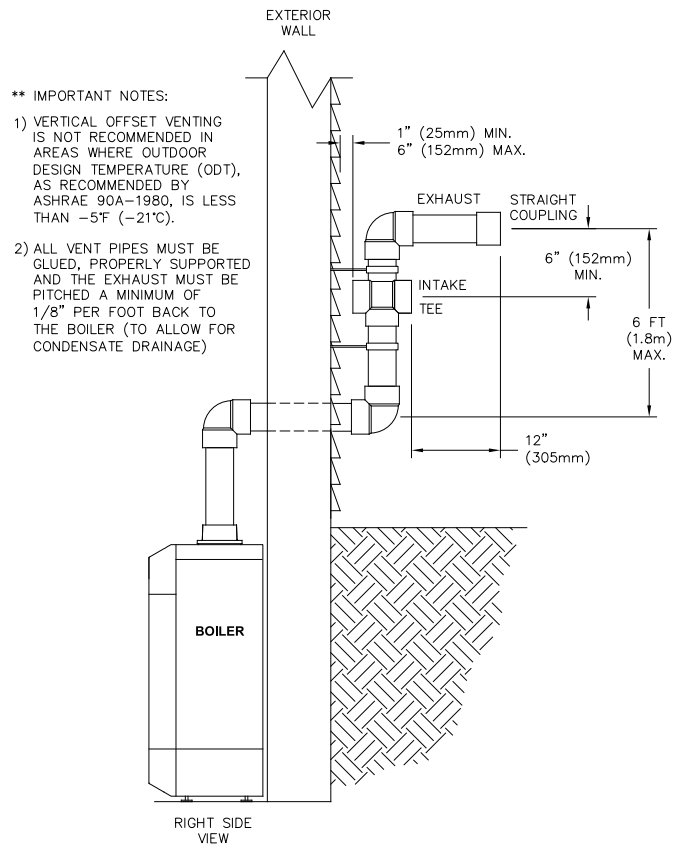

**Figure 3.2: Exit Terminal Location for Mechanical Draft and Direct-Vent Venting Systems**
- a. See Figure 3.2 for an illustration of clearances for location of exit terminals of direct-vent venting systems.